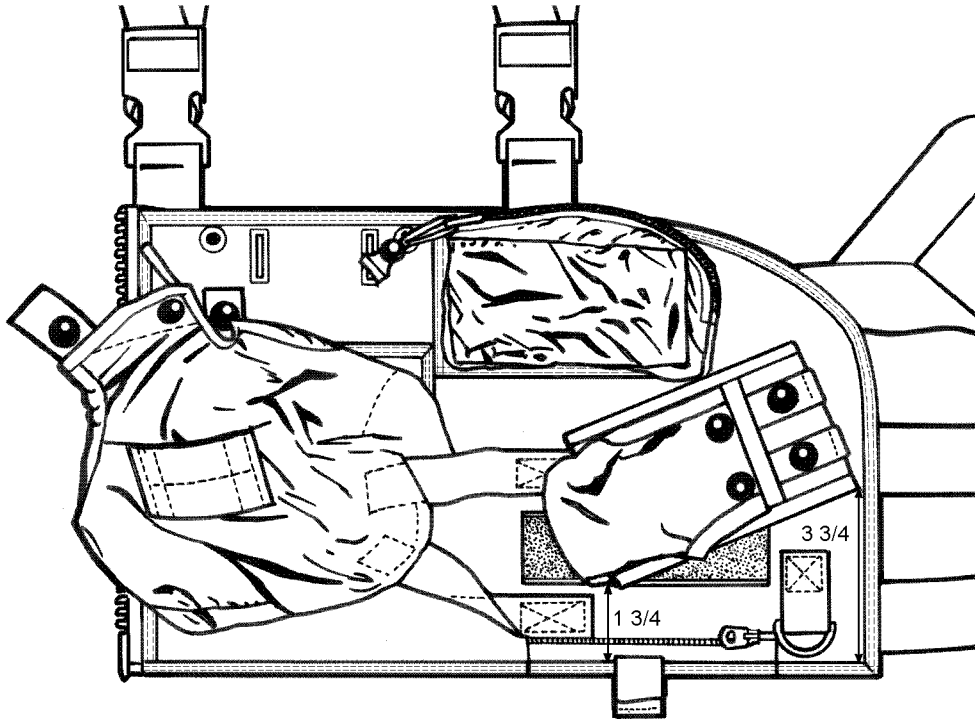

Figure 10-5. Modification for C-20/C-40 Crew Chief Configuration
3. Place battery pocket (move pocket to top edge of vest) as shown in Figure 10-5, 6 1/2 inches from the slide fastener - vest edge tape. Sew battery
8. Once pocket is in place on the vest as shown in Figure 10-5, sew the slide fastener sides of pocket panel in place using two rows of stitches side by side 1/8 inch from edge. Using the cross stitching of regulator pocket flap as a guide, sew the center of panel in place using one row of stitches and backstitch 3/4 inch minimum on each side.